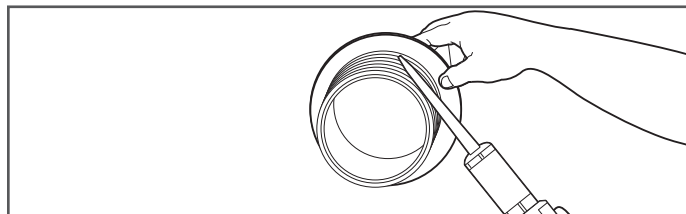

Figure 23-6
4. Apply an ample amount of Part No. UGF-EPB-50 bonder to the ribbed sealing surface of entry fitting. Ensure enough bonder is used for complete coverage (Figure 23-6).